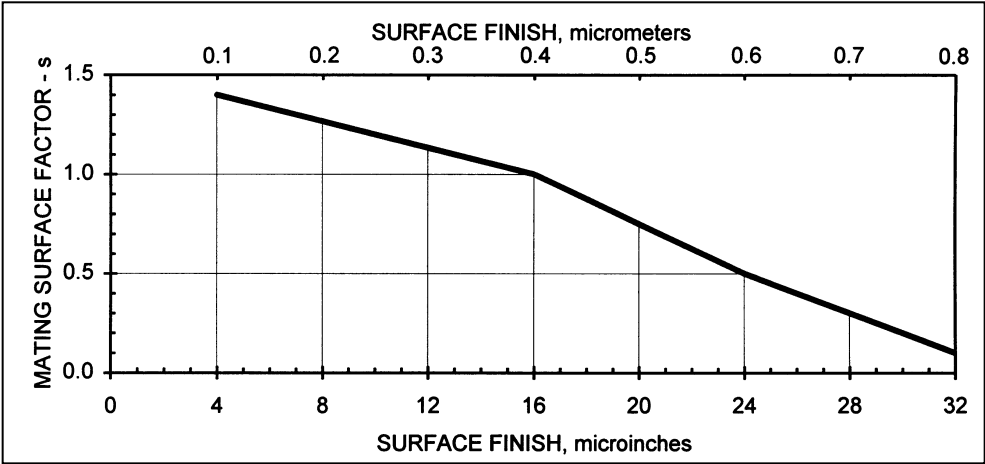

Figure 5-5. DX Mating Surface Factor – s
- s = mating surface factor, Figure 5-5
DX bearings may be used with all conventional shaft materials. A ground finish of better than 16 microinches (0.4 micrometers) is recommended. Hardening of steel shafts is not essential unless abrasive dirt is present, in which case a shaft hardness of at least Rc40 is recommended. Figure 5-5 shows the relationship of application factor, s, for various surface finishes.